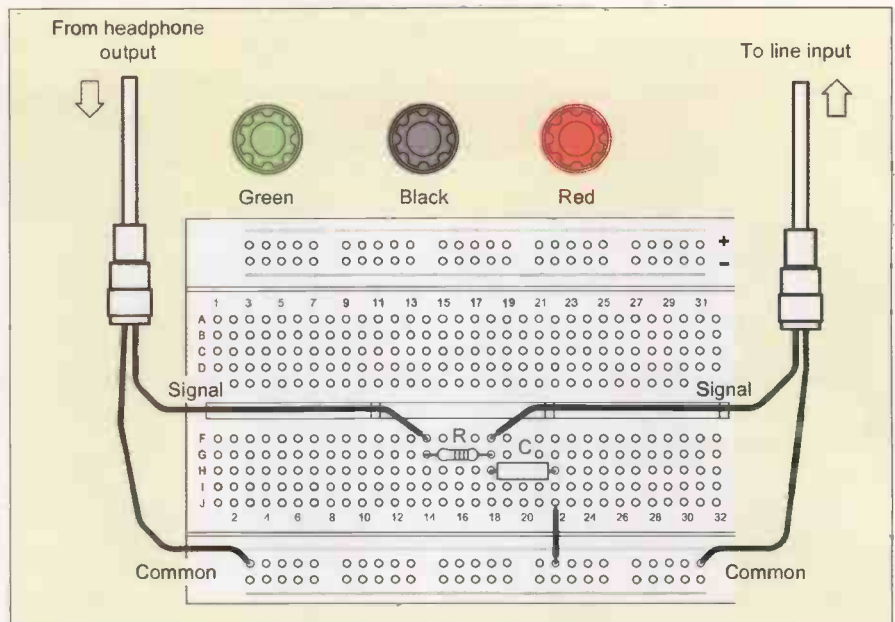

Fig. 7.19. Wiring diagram for Practical Investigation 7.1
Wiring diagram: See Fig.7.19
3. Connect the headphone output from your PC via a suitable audio lead (e.g. a lead fitted with a 3.5mm jack plug at one end and a phono socket at the other) to the input of the integrating circuit (two short lengths of insulated wire connected to a phono plug can be useful here, as shown in Fig.7.19).
4. Connect the line input to your PC via another audio lead (e.g. another lead fitted with a 3.5 mm jack at one end and a phono socket at the other) to the output of the integrating circuit (once again, two short lengths of insulated wire connected to a phono plug can be useful here, as shown in Fig. 7.19).